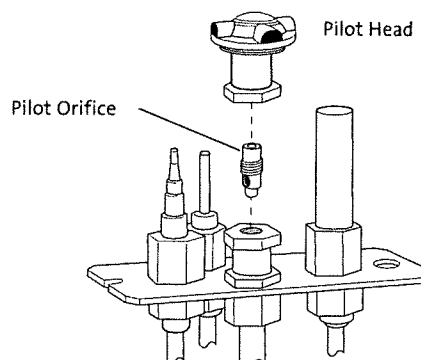

Figure 14. Remove pilot head and pilot orifice.
11. Change the Pilot Orifice. **From within the firebox**, pull the pilot hood off the pilot assembly. See Fig. 14. Using the 4 mm allen wrench included with the conversion kit, remove the original pilot orifice (counterclockwise). Replace with the appropriate orifice: